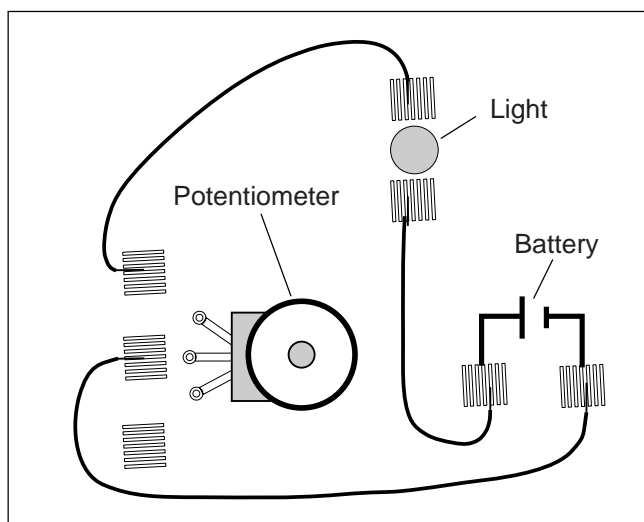

Figure 2.2 (Not to scale)
- ⑪ Connect the circuit shown in Figure 2.2. What is the effect of rotating the knob on the device that is identified as a “Potentiometer?”